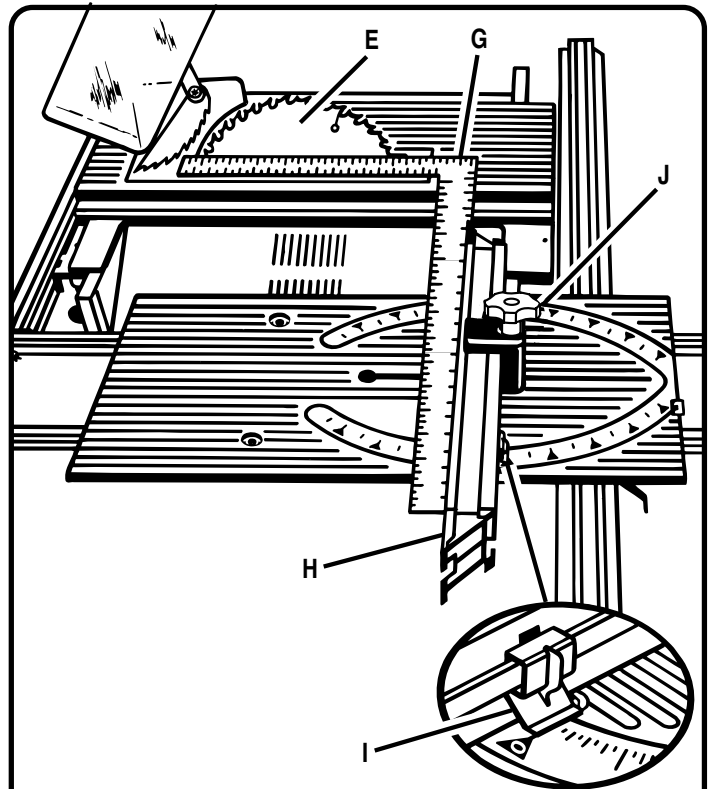

Fig. 53
See Figure 53.
- Set the miter fence (H) at 0° as shown in figure 53. Miter indicator (I) should be set precisely on 0° and secured in place with adjusting clamp (J).
- Place a framing square (G) firmly against the miter fence (H) with the other side against the blade (E).